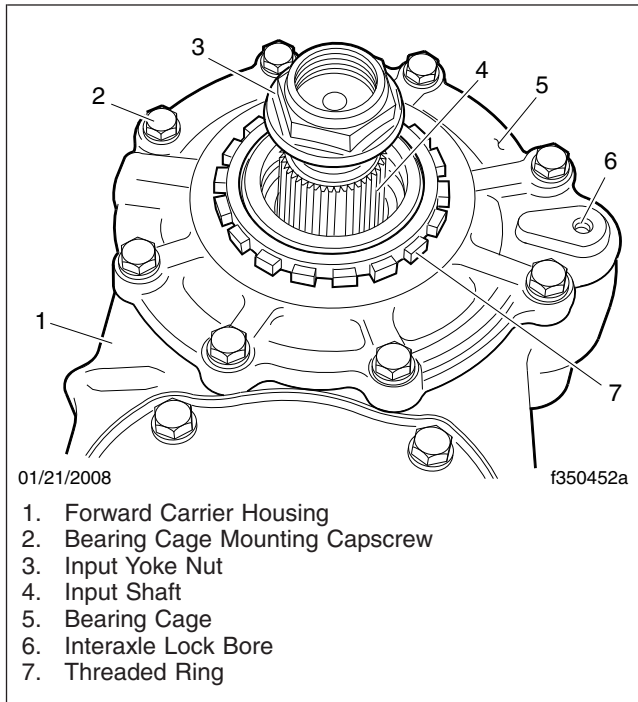

Fig. 1, Bearing Cage
5. If there is a leak between the bearing cage and the carrier housing, remove the bearing cage, as follows. See Fig. 1.